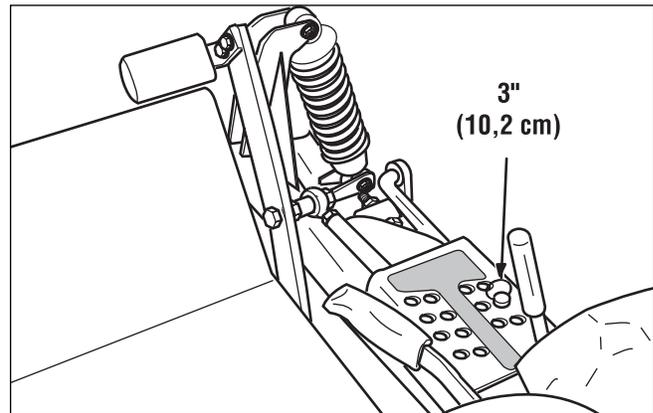

Figure 39. Deck Lift Pedal & Pin Position
6. To ensure that the deck is in the lowest position, push the pedal by hand towards the rear of the unit and install the height adjustment pin in the 3" (7.6cm) position to hold in place. See Figure 39.